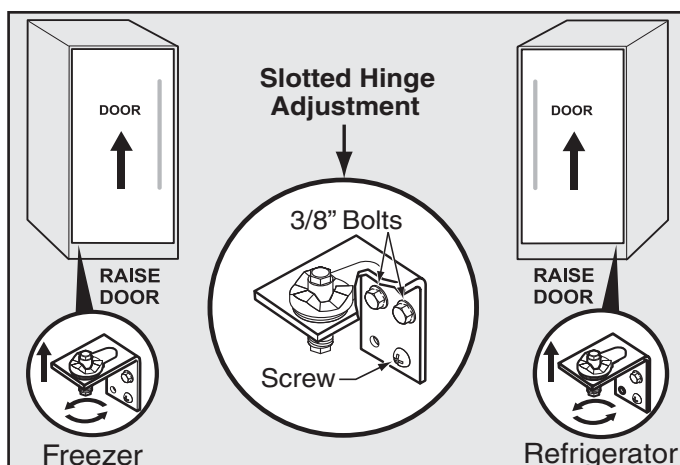

Figure 2-9. Leveling Unit Door
The doors may also be adjusted side to side with the slotted hinge for aligning the doors parallel to each other. Loosen the two bolts with a 3/8" wrench and one screw with a Phillips screwdriver. Shift the doors until parallel, then retighten screws securely. (See Figure 2-9)
1. If the refrigerator door is lower than the freezer door, raise the refrigerator door by turning the adjustment screw clockwise using a 7/16 inch socket wrench. (See Figure 2-9)
2. If the freezer door is lower than the refrigerator door, raise the freezer door by turning the adjustment screw clockwise using a 7/16 inch socket wrench. (See Figure 2-9)